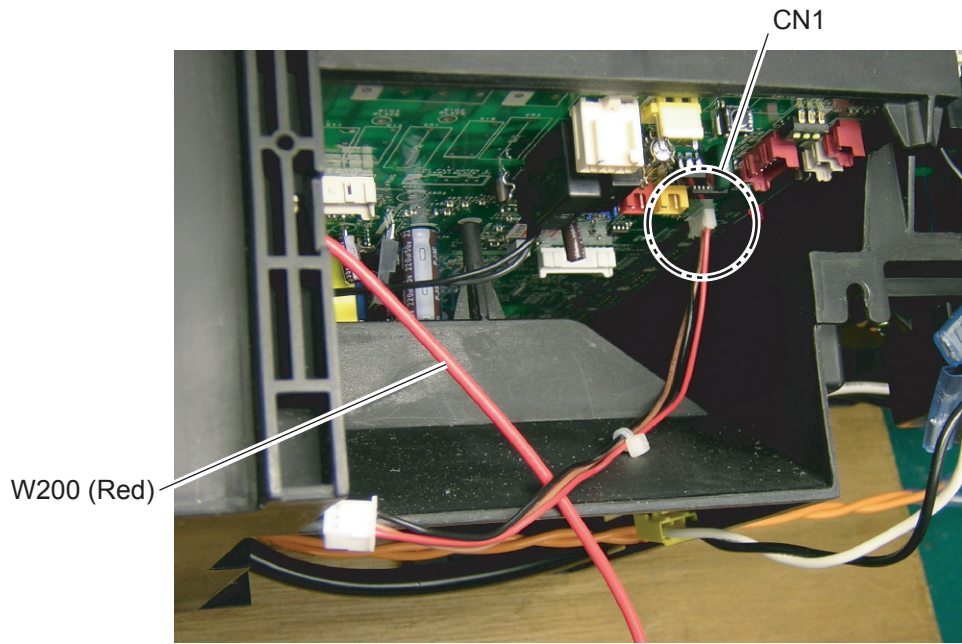

Fig. 6
- As shown in Fig.6, pull out the wires.